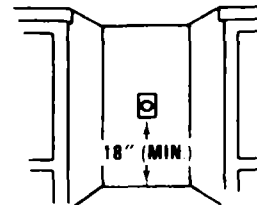

FIGURE 7
7. A grounded receptacle should be located 18" (min.) from the floor and in the center of the opening. See Figure 7.